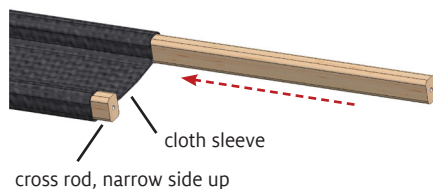

FIGURE 4: ASSEMBLE CLOTH SLEEVE
8. Slide the cross rods, with their narrow sides up, into the casings on the long sides of the cloth sleeve, as shown in Figure 4.